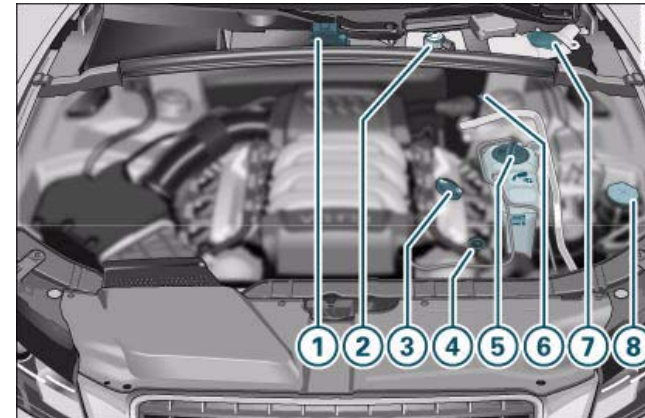

Fig. 252 Typical locations of fluid containers, engine oil dipstick and engine oil filler cap
① Jump-start terminal (+) under a cover	265, 294
② Brake fluid reservoir (☉)	262
③ Engine oil filler cap (🔑)	259
④ Engine oil dipstick* (orange)	258
⑤ Radiator expansion tank (♁)	261
⑥ Jump-start terminal (-) with hexagon head	265, 294
⑦ Windscreen washer container (🌀)	267
⑧ Hydraulic fluid reservoir for power steering	225 ▶
The positions of the engine oil filler cap and the engine oil dipstick ⇒ *page 256*, fig. 252 (items ③ and ④) may be different on some engine versions. ■